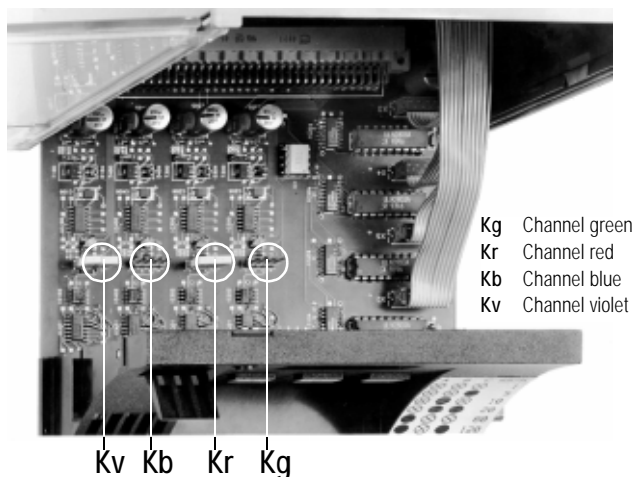

Figure 15 Electronic unit withdrawn
4. Withdraw the electronic unit to such an extent that the jumpers are easily accessible (see figure 15).